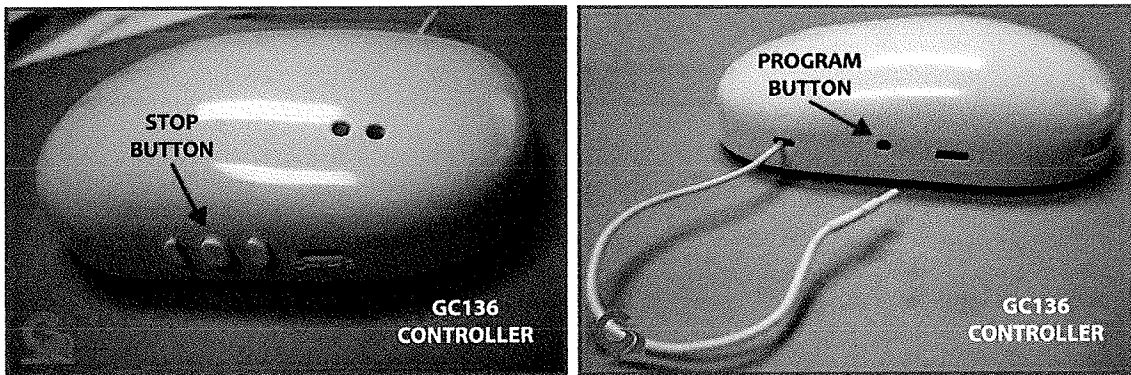

Figure 1
2. Locate and identify the Awning Controller in the coach. 120V AC awnings will have the GC136 (Figure 1). 12V DC awnings will use the GC732G (Figure 2).